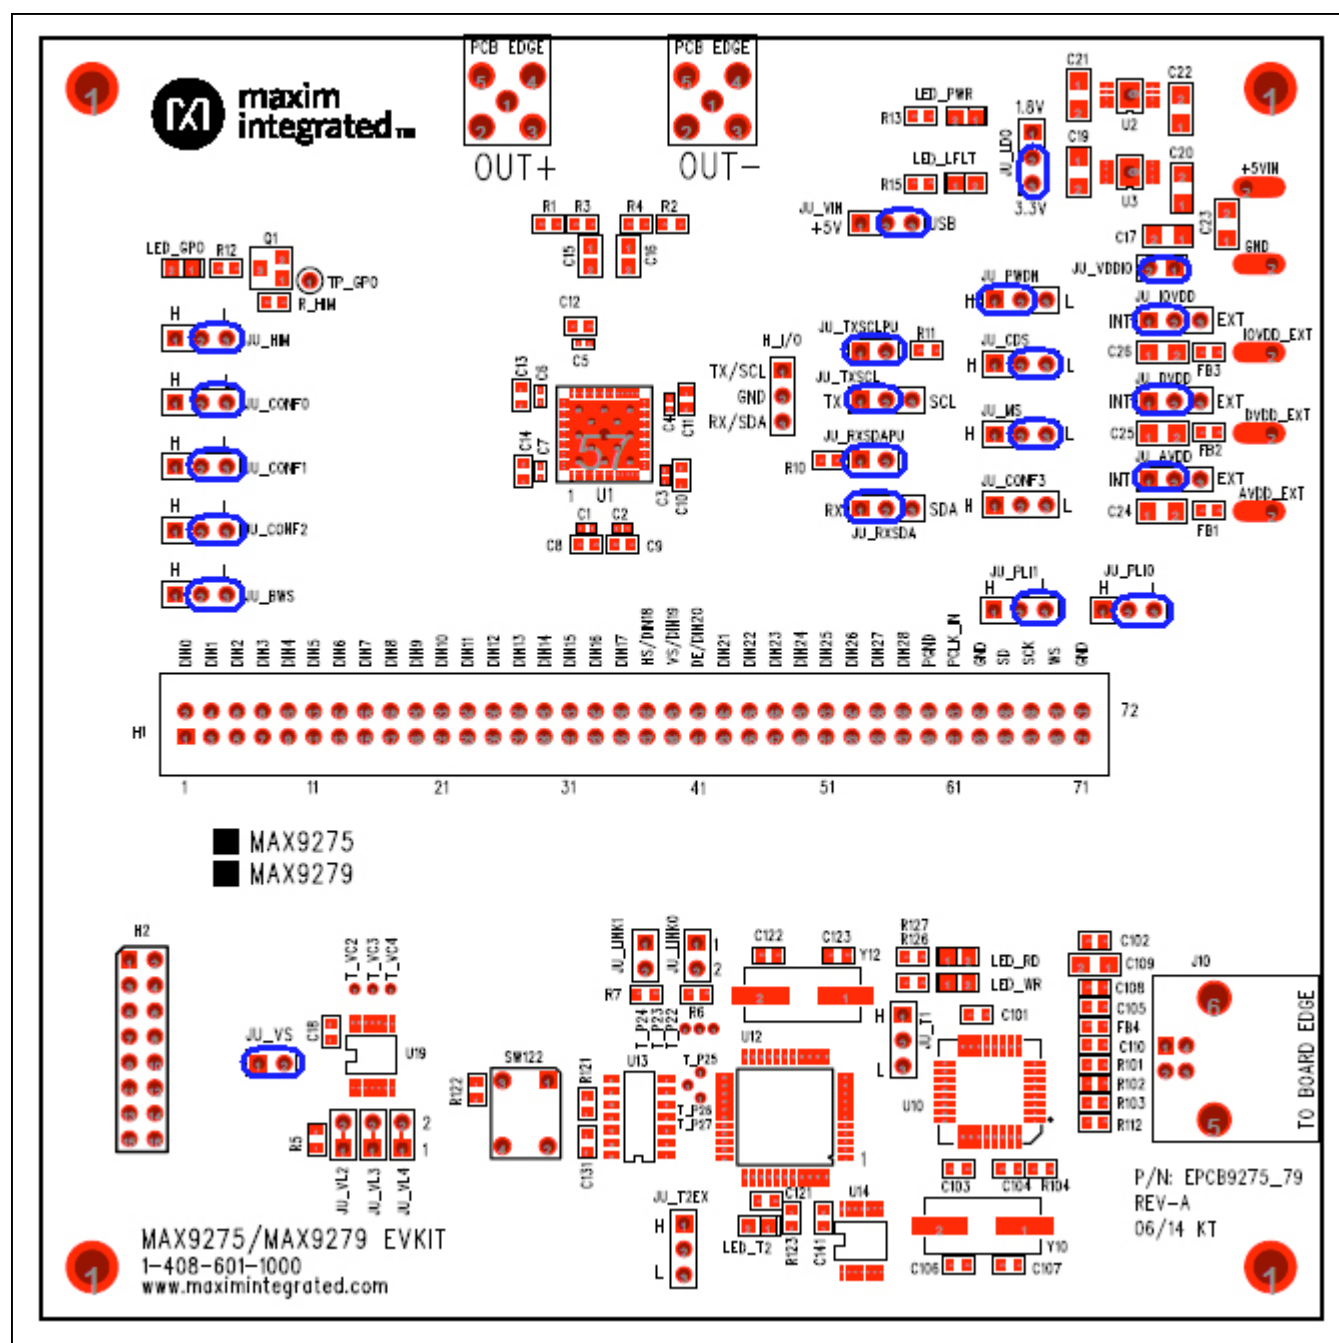
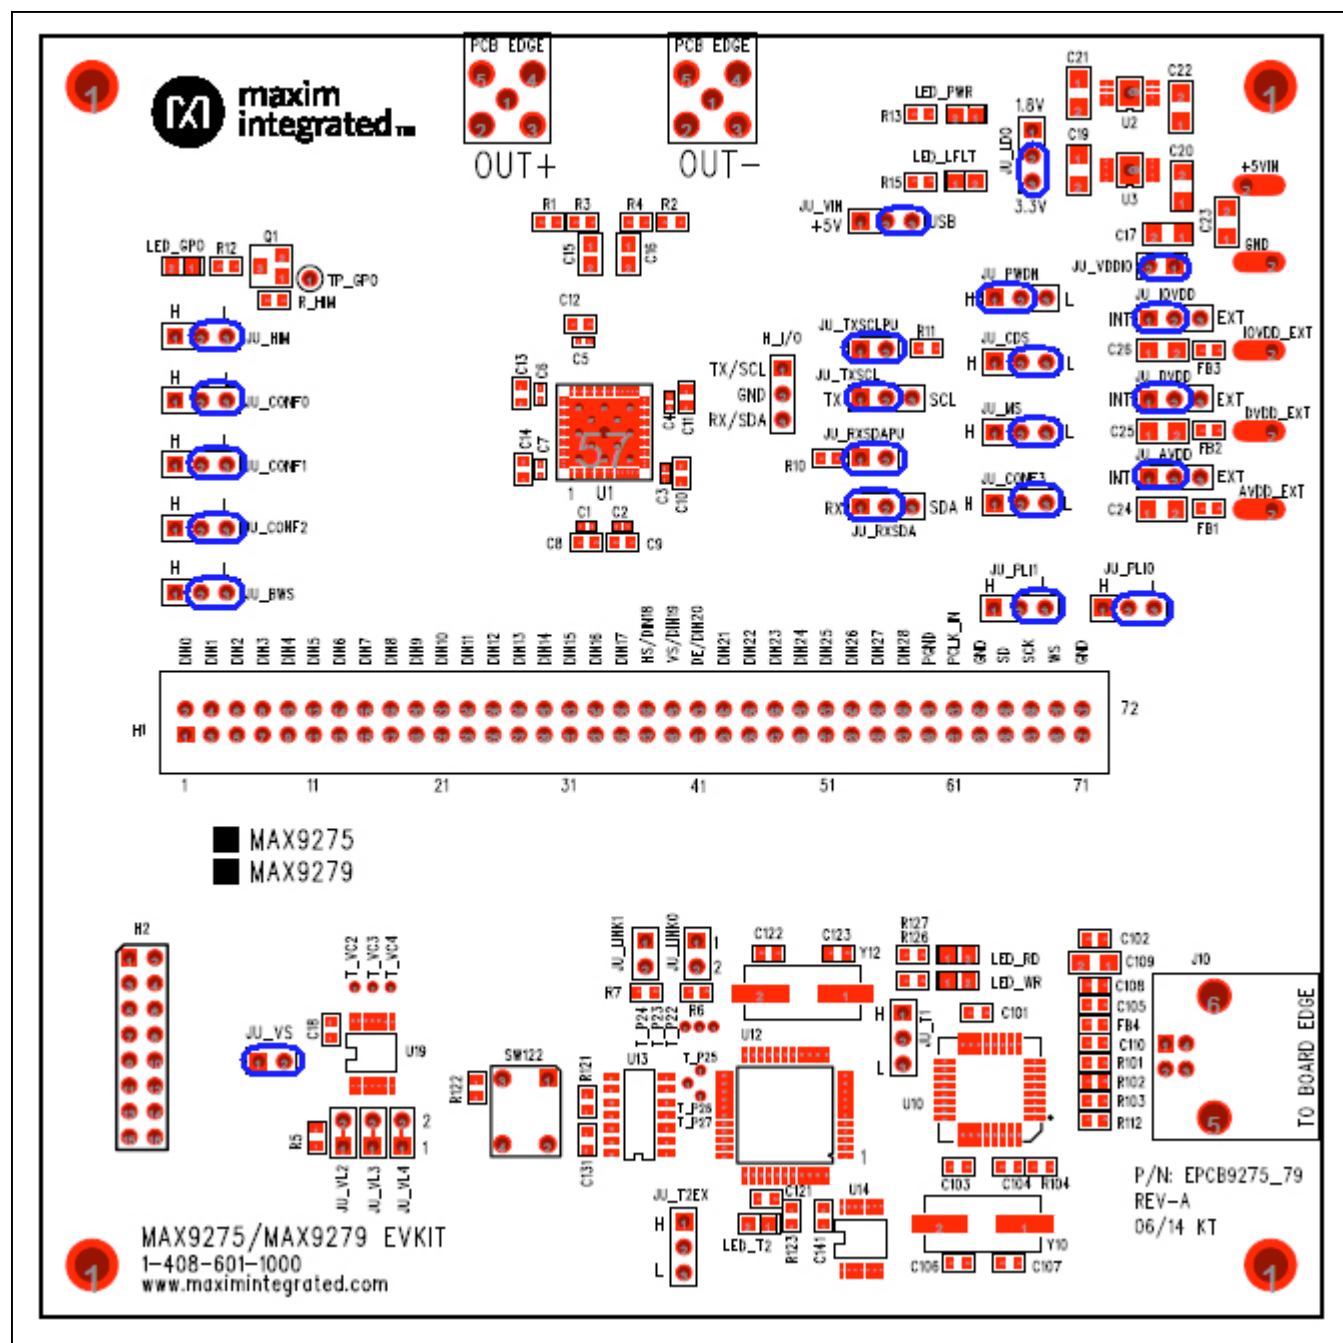
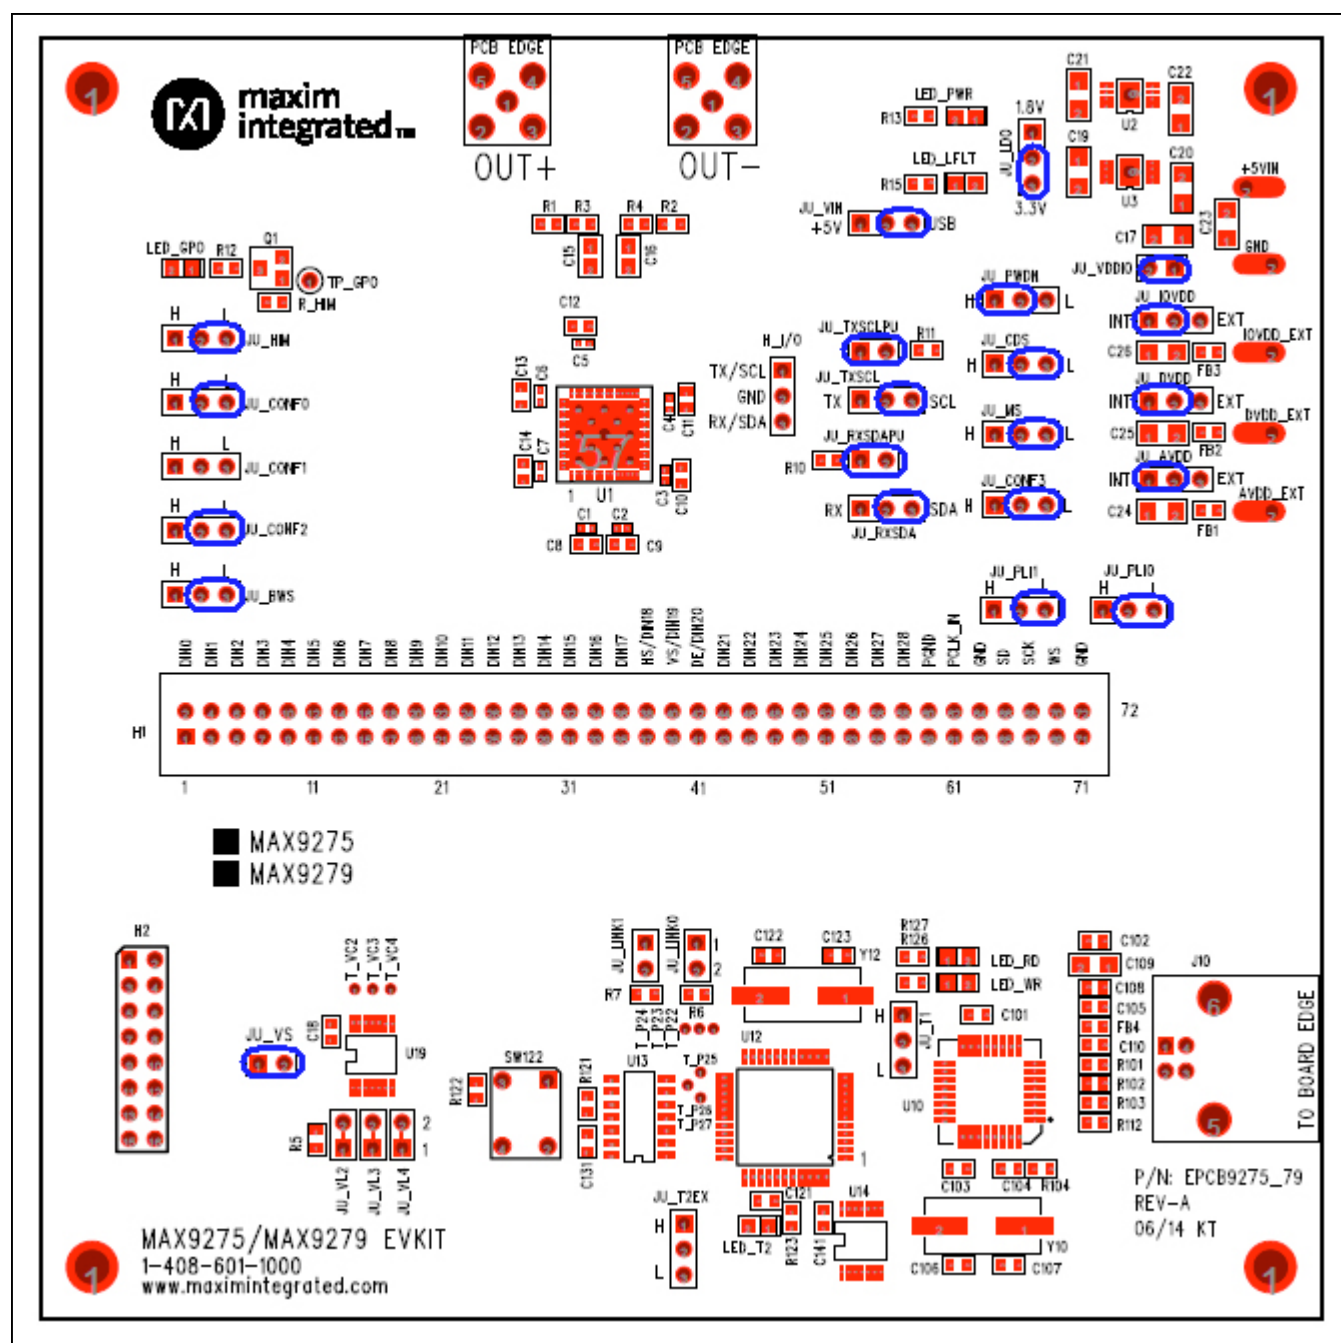
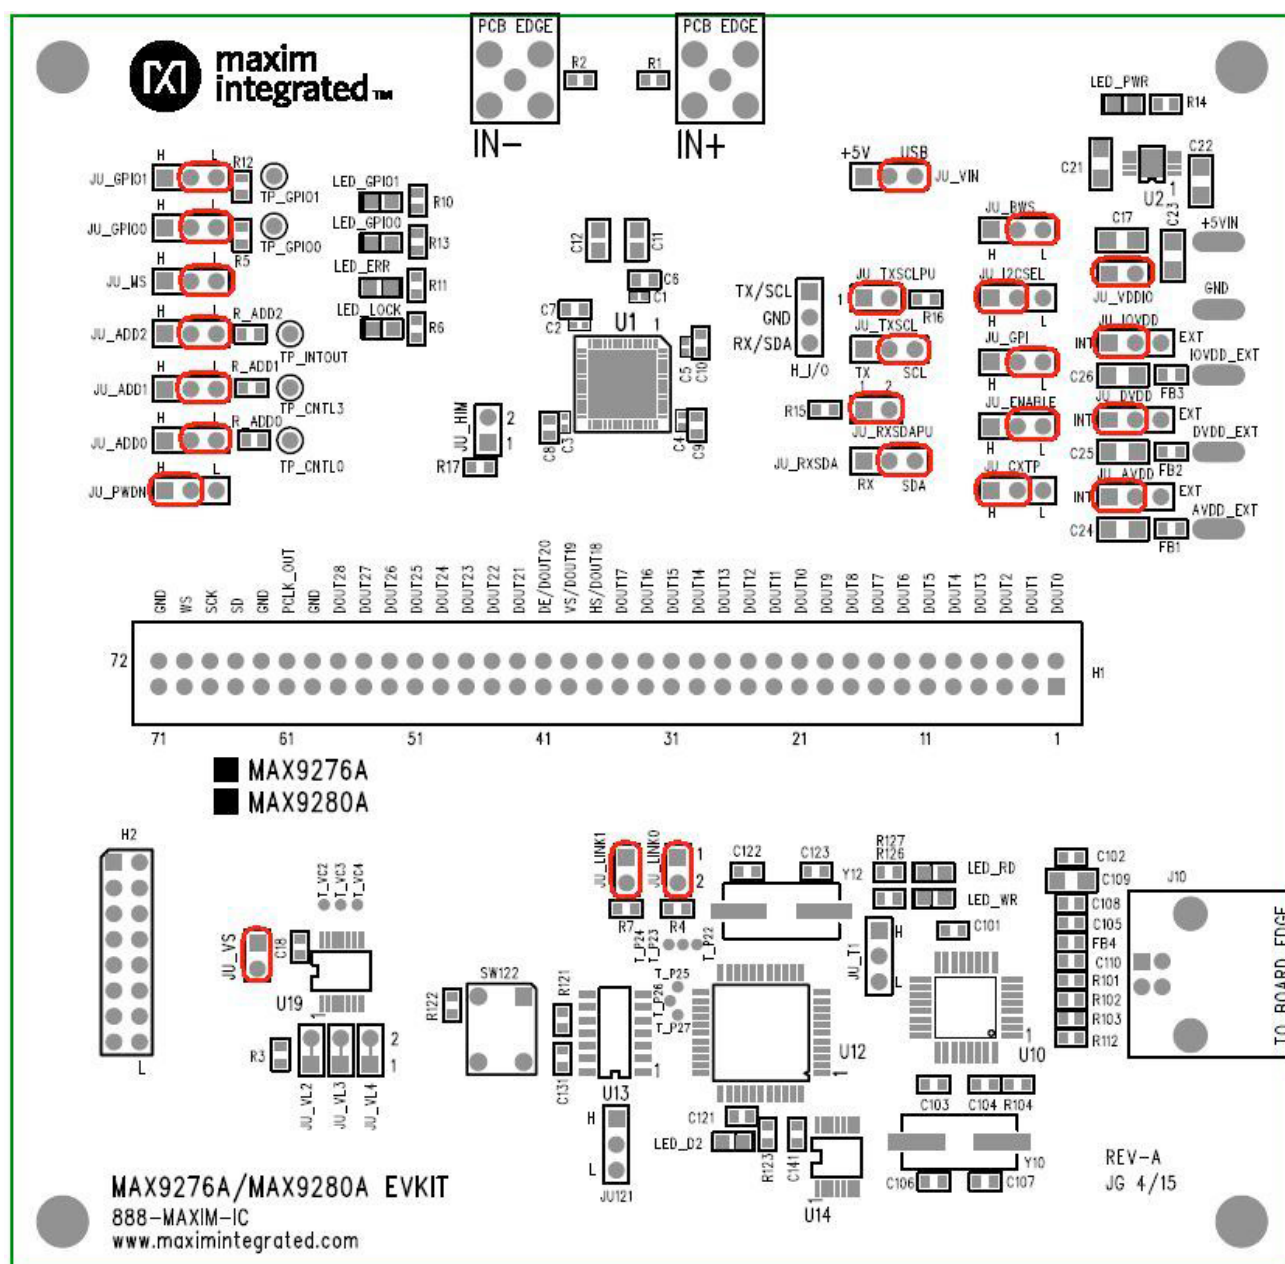

Figure 9. Serializer Jumper Settings for Coax/UART Mode
Figure 10. Serializer Jumper Settings for STP/UART Mode
Figure 11. Serializer Jumper Settings for STP/I²C Mode
Figure 12. Initial Deserializer Jumper Settings for Coax/I²C Mode
- 2) Verify that all serializer jumpers are in their default positions, as shown in Table 1 and Figure 8, and deserializer jumpers are set, as shown in Figure 12.
The **Identify Devices** button causes the GUI to scan the system and search for slave addresses selectable by the SerDes input address pins. Upon successful communication, identified **Device ID** and corresponding jumper lists are displayed on the **MAX9279 Jumper Selection** and **MAX9280/80A Jumper Selection** group boxes. The user can also manually select a device from the **Device ID** drop-down list and enter a slave address in the **Device Address** edit box. It is good practice to utilize the **Identify Devices** function and verify communication with the DUTs before attempting to **Connect**. Figure 8, Figure 9, Figure 10, Figure 11, and Figure 12 show jumper settings on the MAX9275/MAX9279 PCB for coax or STP cable and UART or I2C communication with a USB controller connected to the serializer board. Refer to the MAX9275/MAX9279 IC data sheet for detailed configuration information. See Table 1 for jumper functions and settings.